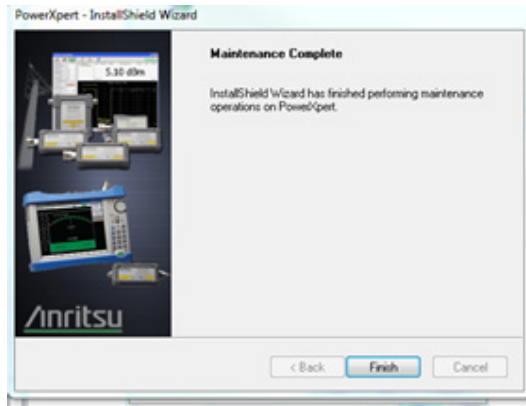

Figure 8. Anritsu PowerXpert Installation Complete
9. The next screen Figure 8 indicates the installation is now complete.